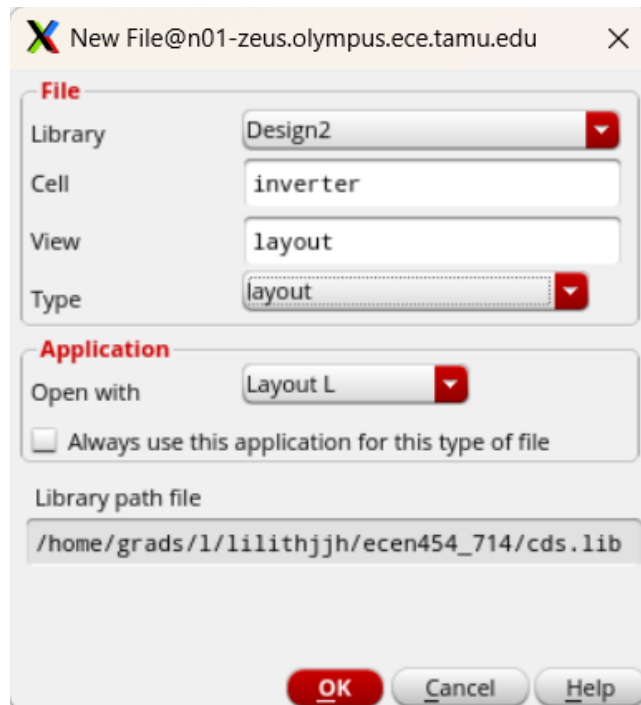

Figure 7. Creating a new layout view for the inverter
- After the schematic and symbol of an inverter circuit are done, next step is to design layout. Create a new "layout" view by File > New > Cell View, and select "layout" as the type, as shown in Figure 7. The Virtuoso layout editor window and the layer selection window (LSW) window will pop up.